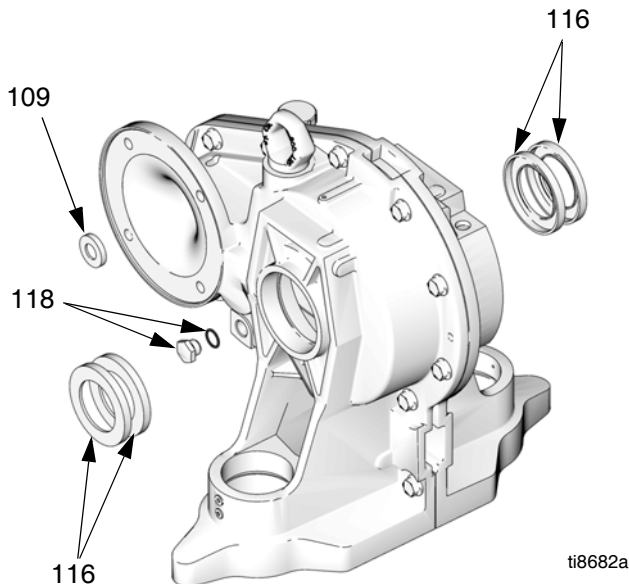

FIG. 26. Gear Reducer Seals
5. Remove four screws (12) and both covers (21, 32).
6. See FIG. 26. On the motor side of the gear reducer, unscrew the oil drain plug (118) with gasket. Pierce the input seal (109) with a hardened sheet metal screw and pull it out.